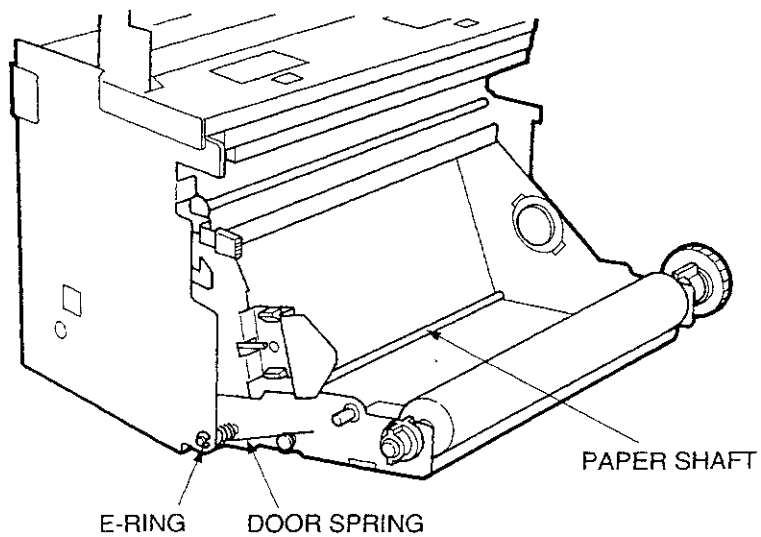

Fig. 2-3
2. Remove the E-RINGS (both sides) of the PAPER SHAFT. (Fig.2-3)
Note : Be careful not to lose the door spring which comes off during the above process. (Fig.2-3)